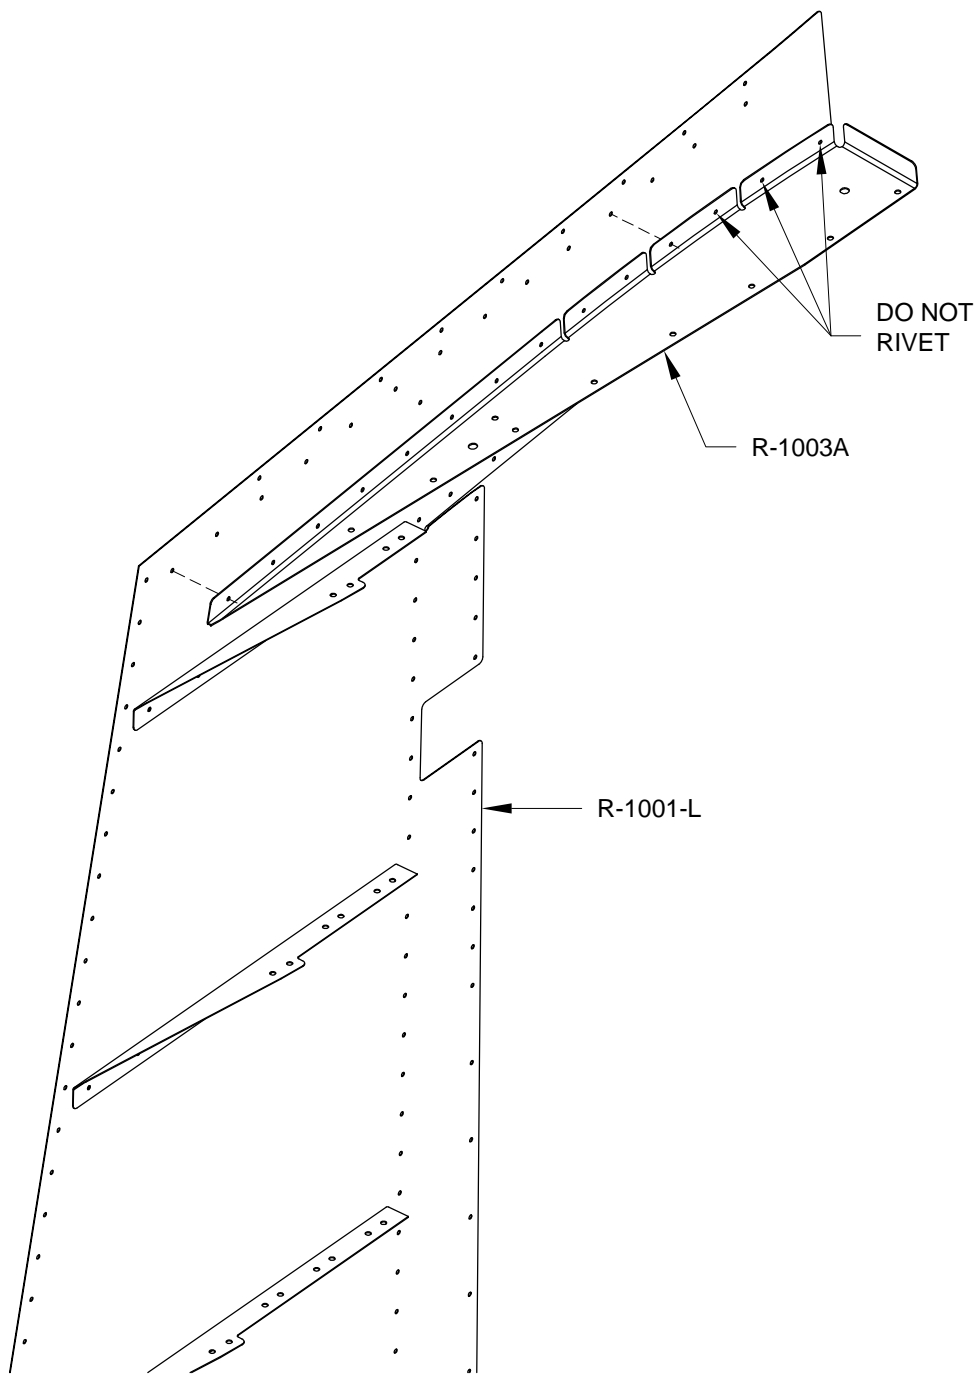

FIGURE 1: RIVETING THE R-1003A TOP RIB HALF
Step 1: Position the R-1003A Top Rib half on the R-1001-L Skin as shown in Figure 1. Rivet it in place using the rivets called out on page 7-12, Figure 3. However, leave open the forward three holes to allow the skin to be pulled back for access when attaching the counterbalance weight.